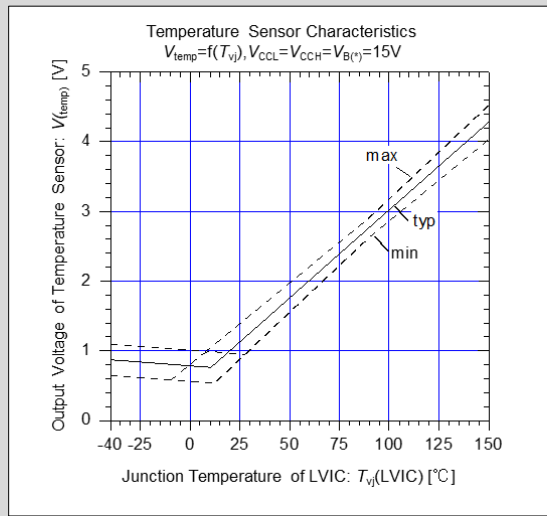

Fig.3-24 LVIC temperature vs. TEMP output voltage characteristics without pull-down resistor
- Fig.3-24 shows the LVIC temperature versus TEMP output voltage characteristics. A Zener diode should be connected to the TEMP terminal when the power supply of MPU is 3.3V. The output voltage shows clamp characteristic at below room temperature. Connect a 22k $\Omega \pm 10\%$ pull-down resistor to the TEMP terminal if linear characteristic is required.